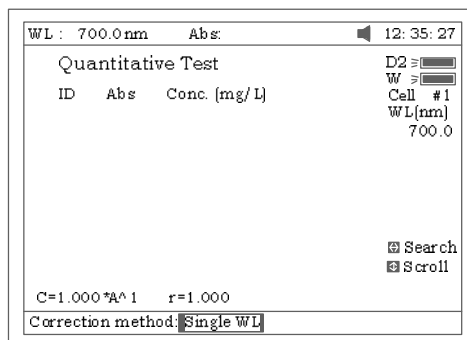

Fig 28
- 2 Press **【SET】** to select correction methods and enter the wavelength. There are three correction methods (single, Isoabsorbance and 3 point, Fig 28) .